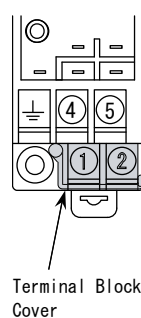
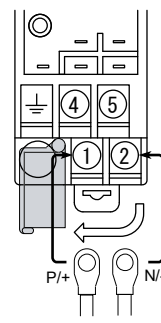

Fig. 1
Fig. 2
(1) Loosen the terminal screw.
(2) Insert the tip of a screwdriver bit beneath the washer and push it up to make ample room to receive a cable.
The terminals for power supply connection (① and ②) are covered with a plastic plate for safety (see Fig. 1). Open the cover plate and connect the power lines to the terminals (see Fig. 2).